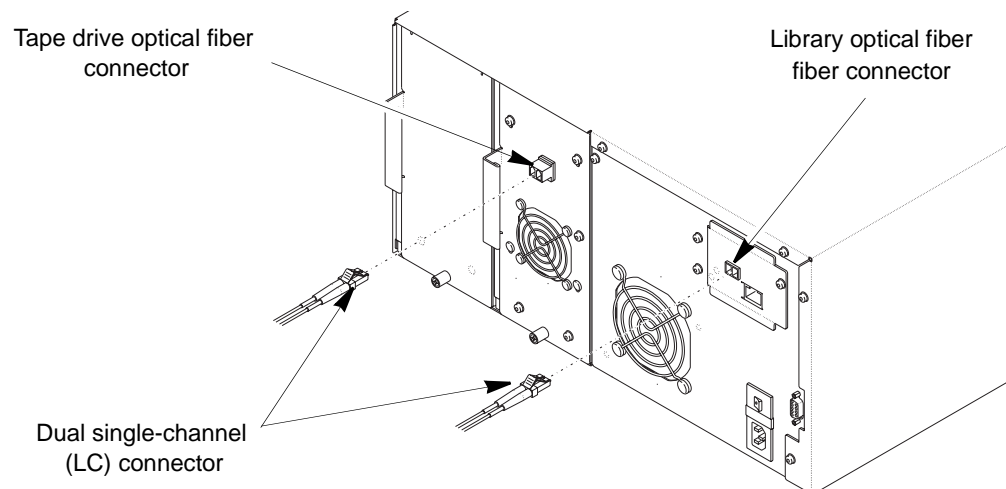

Figure 2-13 Connecting optical cables to the 221L-FC library and tape drive
2. Attach an optical cable from the hub or switch to the library’s optical fiber connector (see Figure 2-13). The connectors are keyed to ensure that the cable is attached in the correct orientation.
3. Attach an optical cable from the hub or switch to the optical fiber connector on each tape drive (see Figure 2-13). The connector and the cable are keyed to ensure that the cable is attached in the correct orientation.